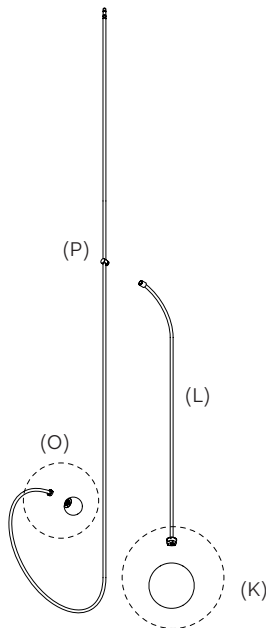
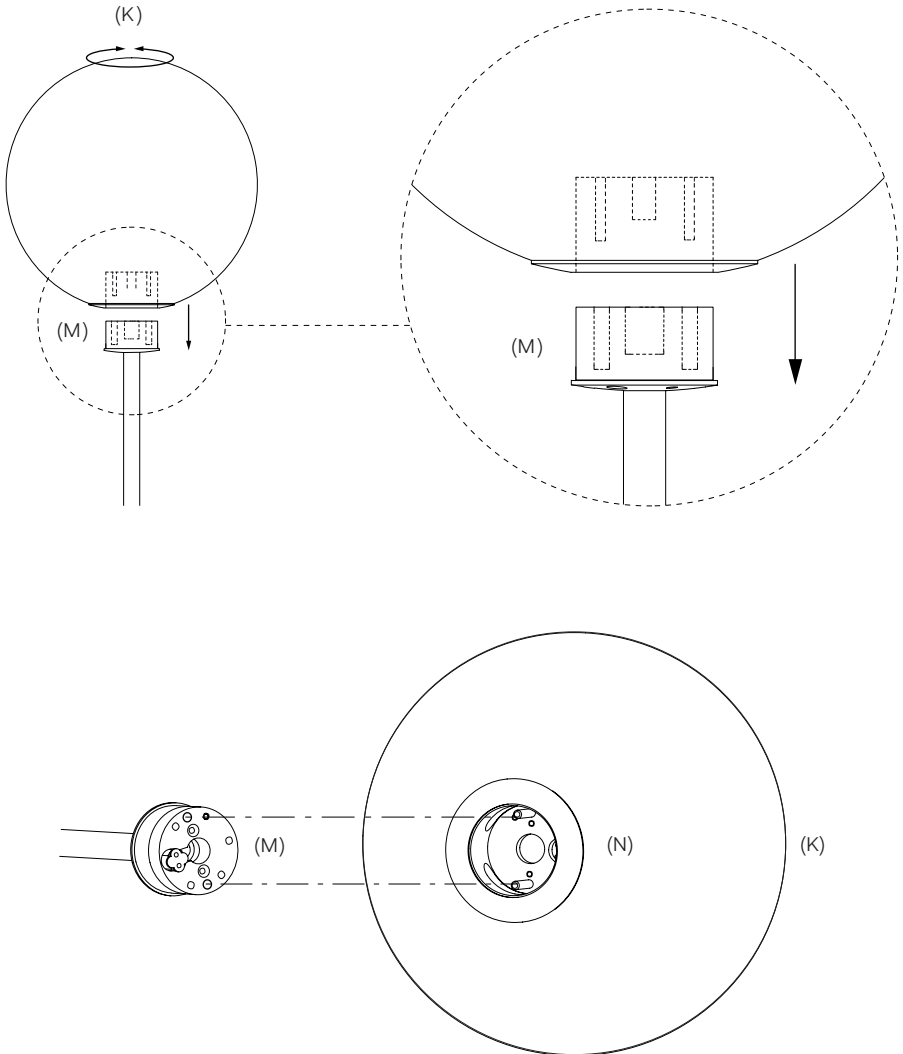

Fig. 13
Fig. 14
Secure the Large Glass Sphere 1 (K) with the supplied M2×20 screw and hex key, ensuring it is tight to keep the connectors flush. See Fig. 13 and Fig. 14.